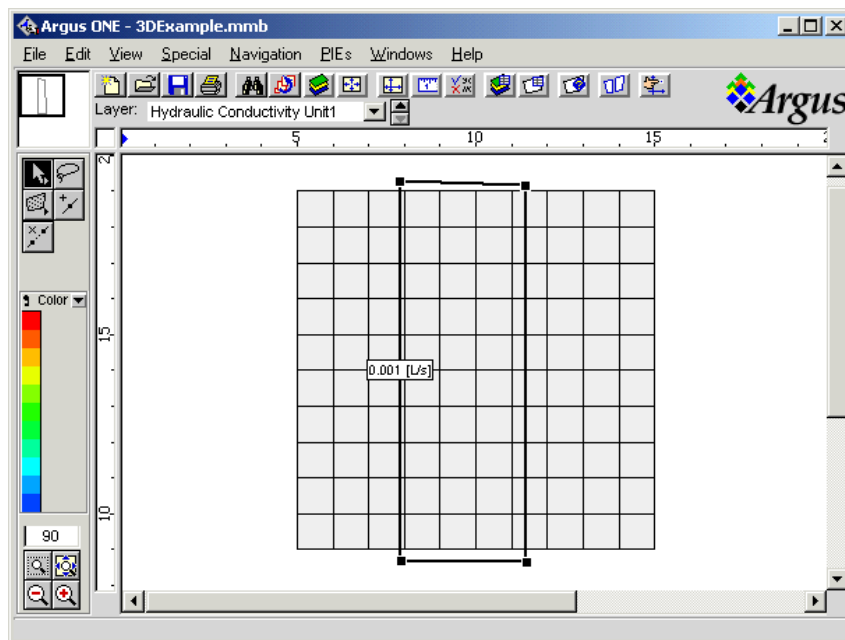

Figure 27. Low hydraulic conductivity zone in three-dimensional example.
7. Draw a closed contour on **Hydraulic Conductivity Unit1** layer similar to that shown in figure 27. It should encompass several columns of cells from the northern to the southern ends of the model but should not reach all the way to the east and west edges of the model. Use the default values for all parameters in the model, so simply click **OK** to exit the *Contour Information* dialog box that appears when the contour is closed.